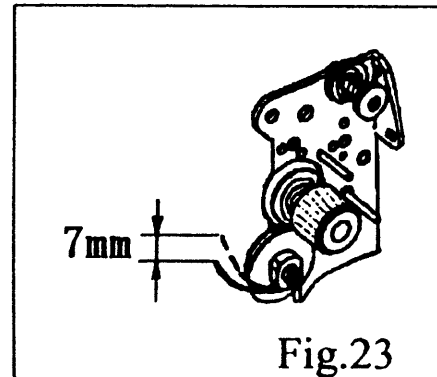

Fig.23
① The distance of 0.5mm is the minimum measurement and with thick types of thread it can be over 1mm.
② Effective tension should not put a strain on the pin 3.
9) Thread Take-up Spring (Fig.23)